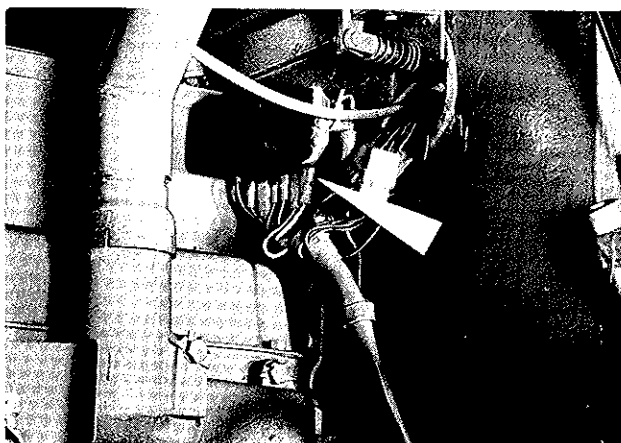

Fig. 2
3. **Voltage regulator. Remove** Disconnect and identify the leads to the regulator. Remove the fixing screws attaching the regulator to the mainframe. Remove the regulator (fig. 2).